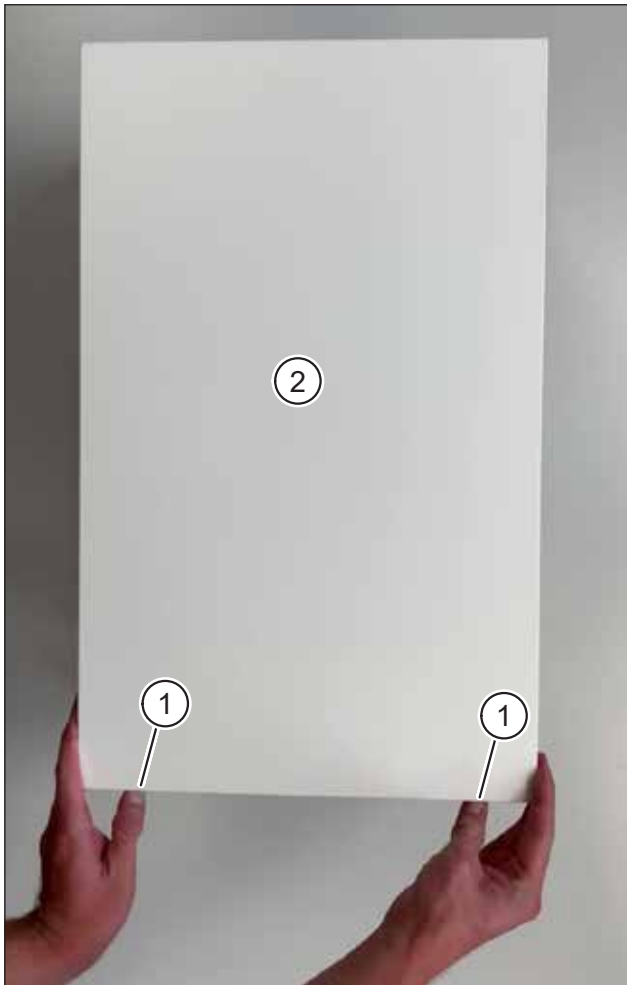

Fig. 1: Removing the cover from the ventilation unit
- ▶ Using both thumbs, press the two latches (item 1 in Fig. 1) on the bottom of the ventilation unit. The unit cover (item 2 in Fig. 1) will come away.